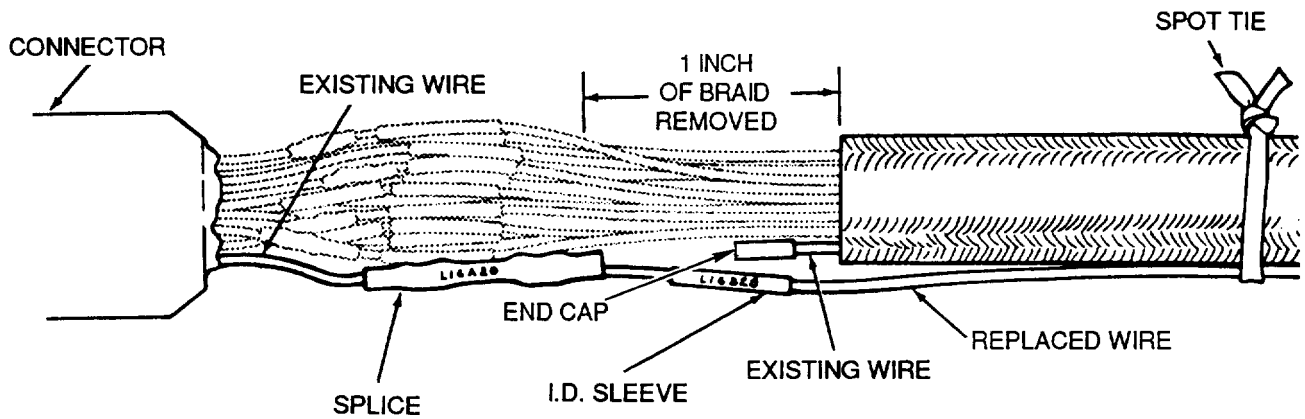

Figure 30. Replacing Unshielded Wire at Potted
38. **Replace Unshielded Wires.** The procedure to replace unshielded wires is as follows. The new wires shall be routed parallel and external to the harness and secured with lacing tape (Figures 30 and 31).